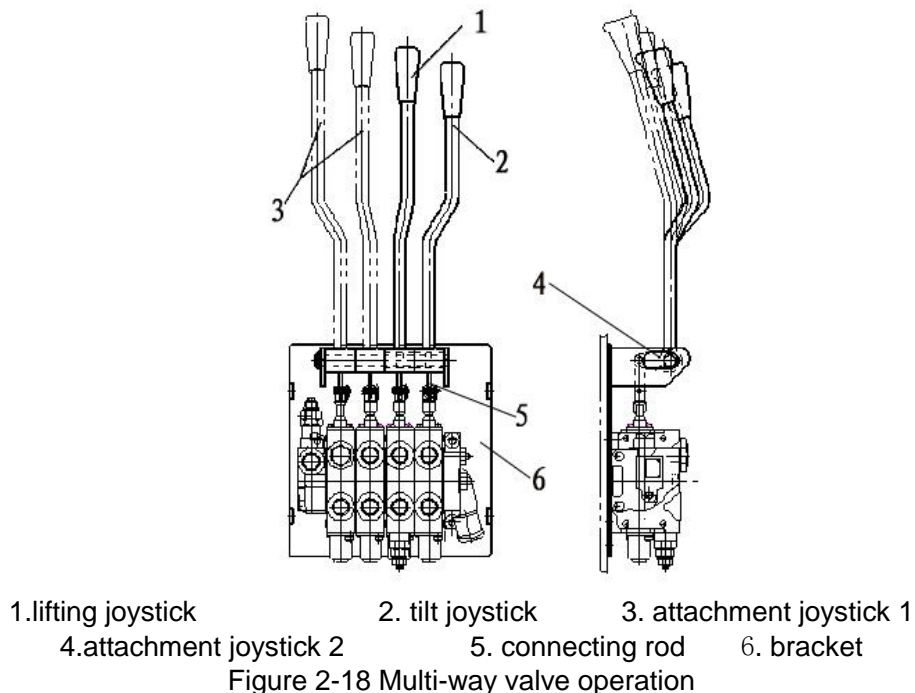

Figure 2-18 Multi-way valve operation
(1) Multi-way valve operation Figure 2-18